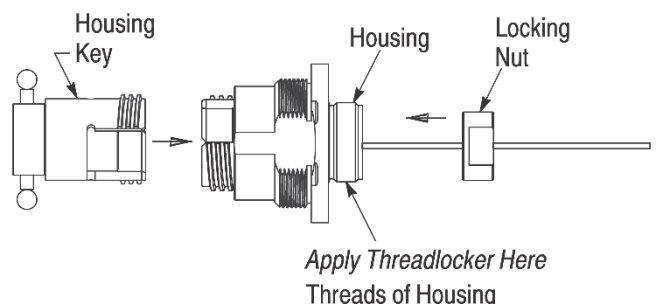

Figure 10
8. Using an applicator swab, apply a *thin film* of the grease around the O-ring on the outside of the EB insert, the front seal on the inside of the housing, and the internal O-ring of the D-hole housing. Remove any excess grease. Refer to Figure 10, Detail A.
9. Align the keyways (located inside) of the D-hole housing with the back end (opposite the front seal) of the housing so that the desired rotational orientation is established (use the flat on the D-hole housing as the reference point). Refer to Figure 10, Detail B. Then slide the D-hole housing onto the housing until it stops. The interference fit of the internal O-ring of the D-hole housing with the housing should prevent the D-hole housing and housing from separating during assembly.
There are 4 rotational orientations for mounting the connector to the panel: top, bottom, left, or right. Aligning one of the keyways located inside the D-hole housing with one of the external keys of the housing will establish the rotational orientation (one keyway is parallel to the flat). Refer to Figure 10, Detail B.
10. Align the internal key (small bar inside) of the housing with the keyway (slot along the outside) of the EB insert, and slide the fixture along with the EB insert assembly into the housing. See Figure 10, Detail C.
13. Slide the wave spring and compression sleeve into the housing. See Figure 10, Detail D.
14. Push-fit the housing key onto the housing. Using the T-handle to hold the connector, apply 2 or 3 drops of the threadlocker to the threads of the housing. See Figure 10, Detail E.